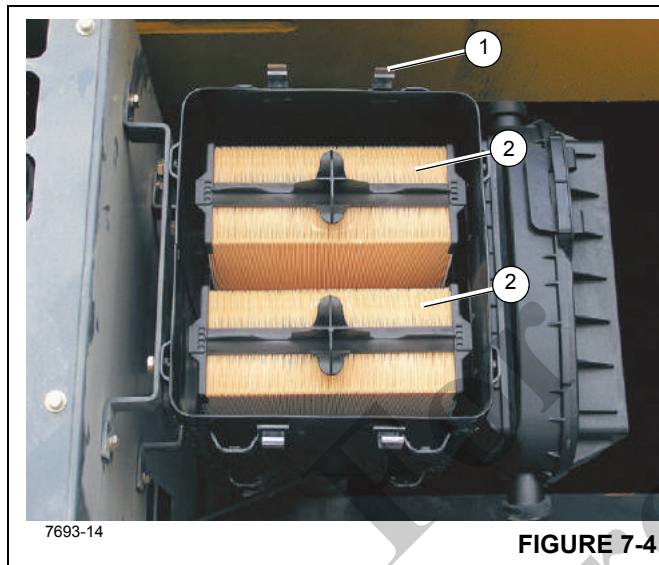

FIGURE 7-4
1. Lift the clips (1) ((Figure 7-4)) securing the cover to the air cleaner body and remove the cover.